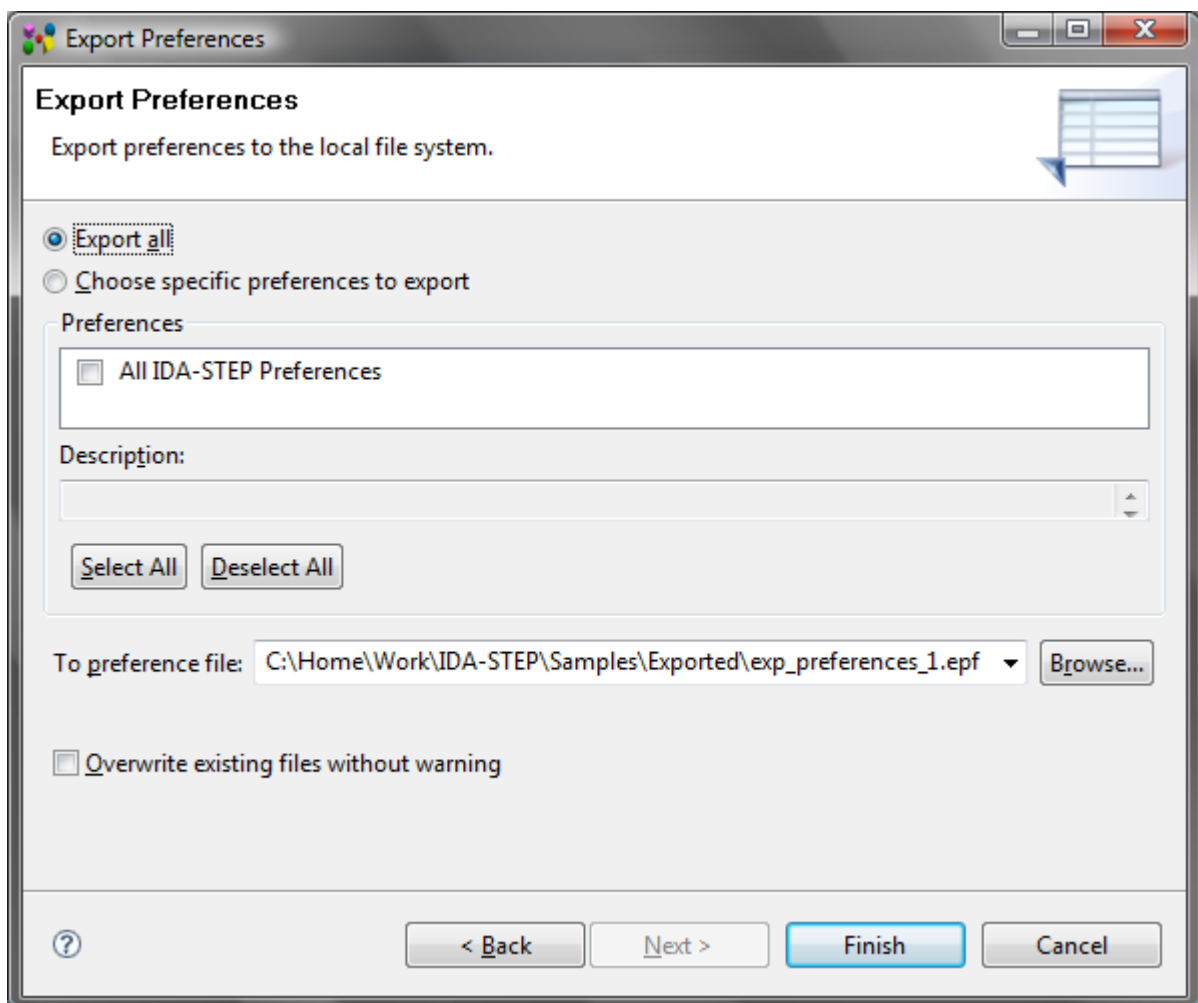

Figure 4. Export Preferences wizard page
- The **Export Preferences** wizard page appears on the screen (see Figure 4):